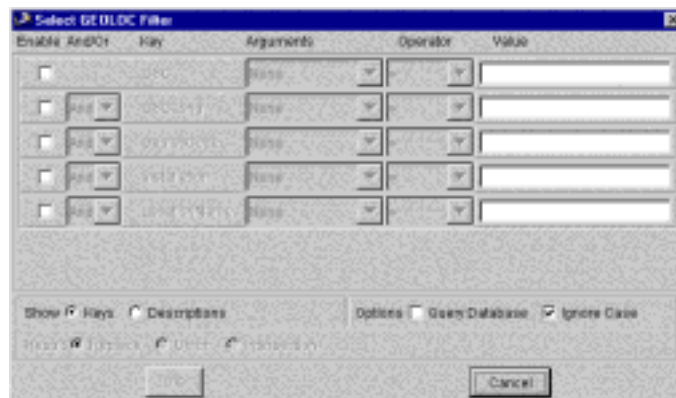

Figure 5.57 Select GEOLOC Filter Window
8. On the Select GEOLOC Filter window (Figure 5.57), enter the search parameters for the new GEOLOC (e.g., CSCLong contains Colorado).